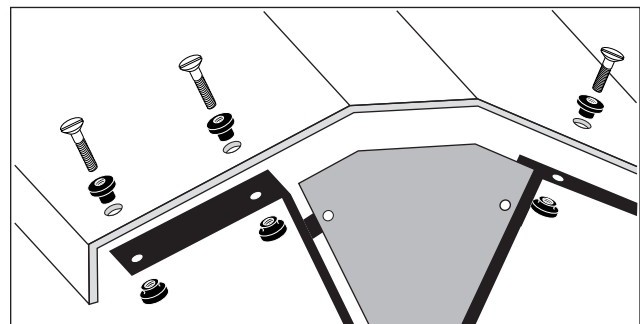

Figure 11. Economate Plexiglas Canopy
2. Remove the screws that hold the canopy on as depicted in figure 11.